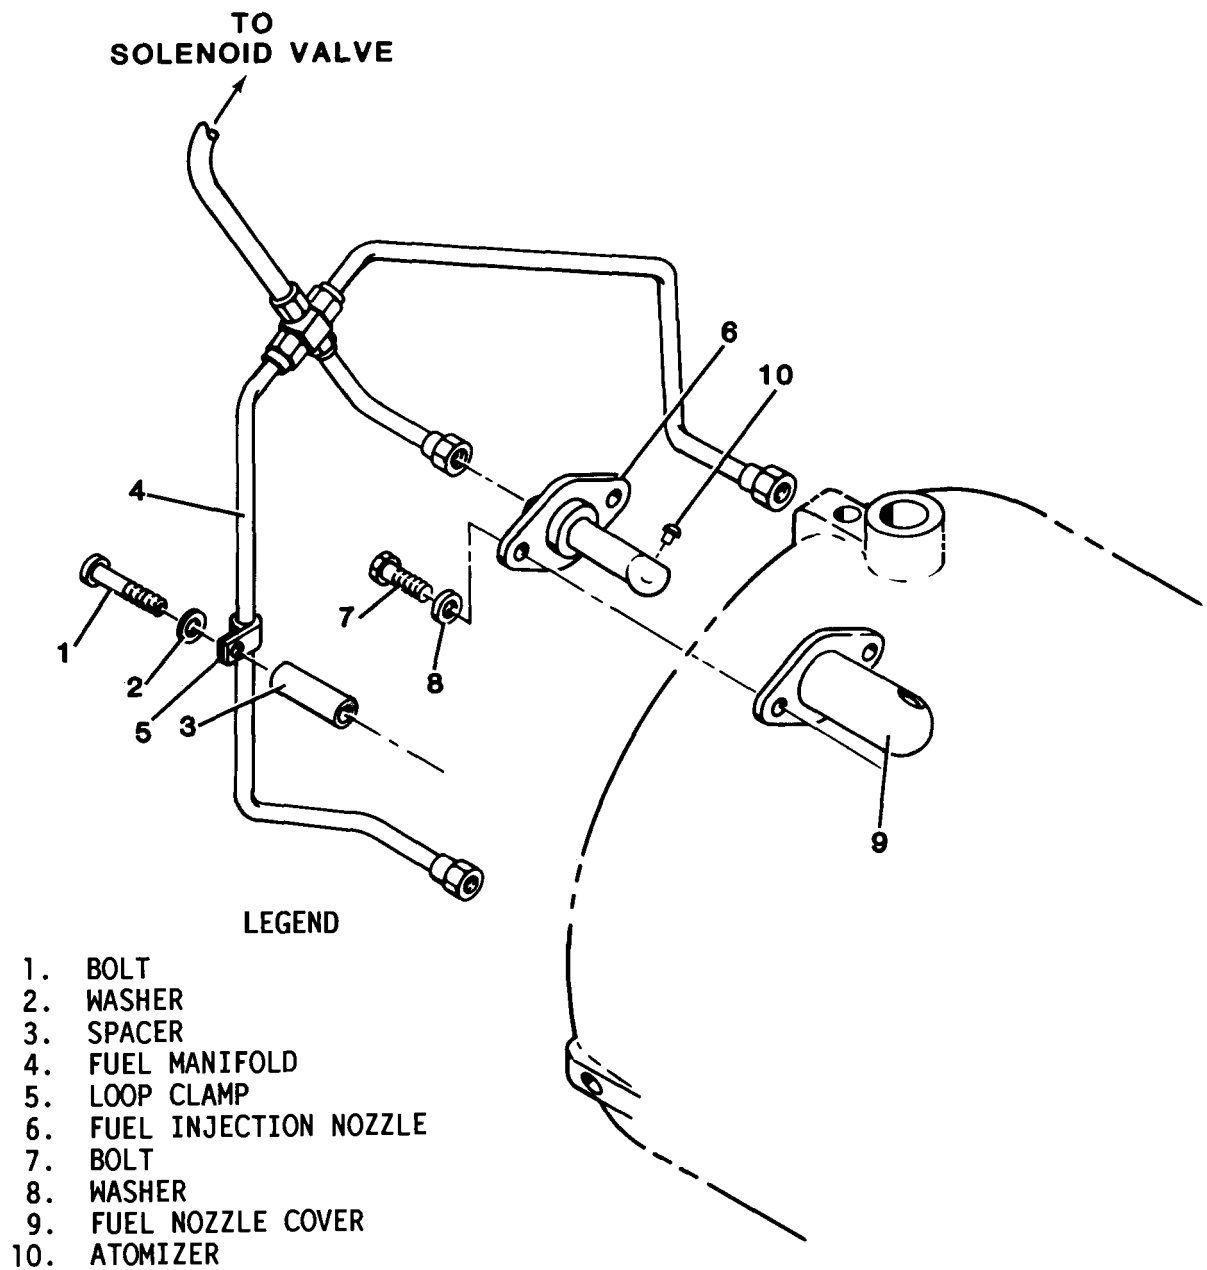

Figure 4-30. Fuel Injection Nozzles
(2) Loosen turnlock fasteners and remove engine housing access cover.
(3) Remove lockwire, bolts (1, figure 4-30), washers (2), and spacers (3) so that fuel manifold (4) can be removed.
(4) Remove loop clamps (5) from fuel line only if damaged.
(5) Disconnect fuel manifold (4) from fuel injection nozzles (6).
(6) Remove lockwire, bolts (7), washers (8), and fuel injection nozzles (6) from nozzle covers (9).
(7) Remove atomizers (10) from fuel injection nozzles (6).